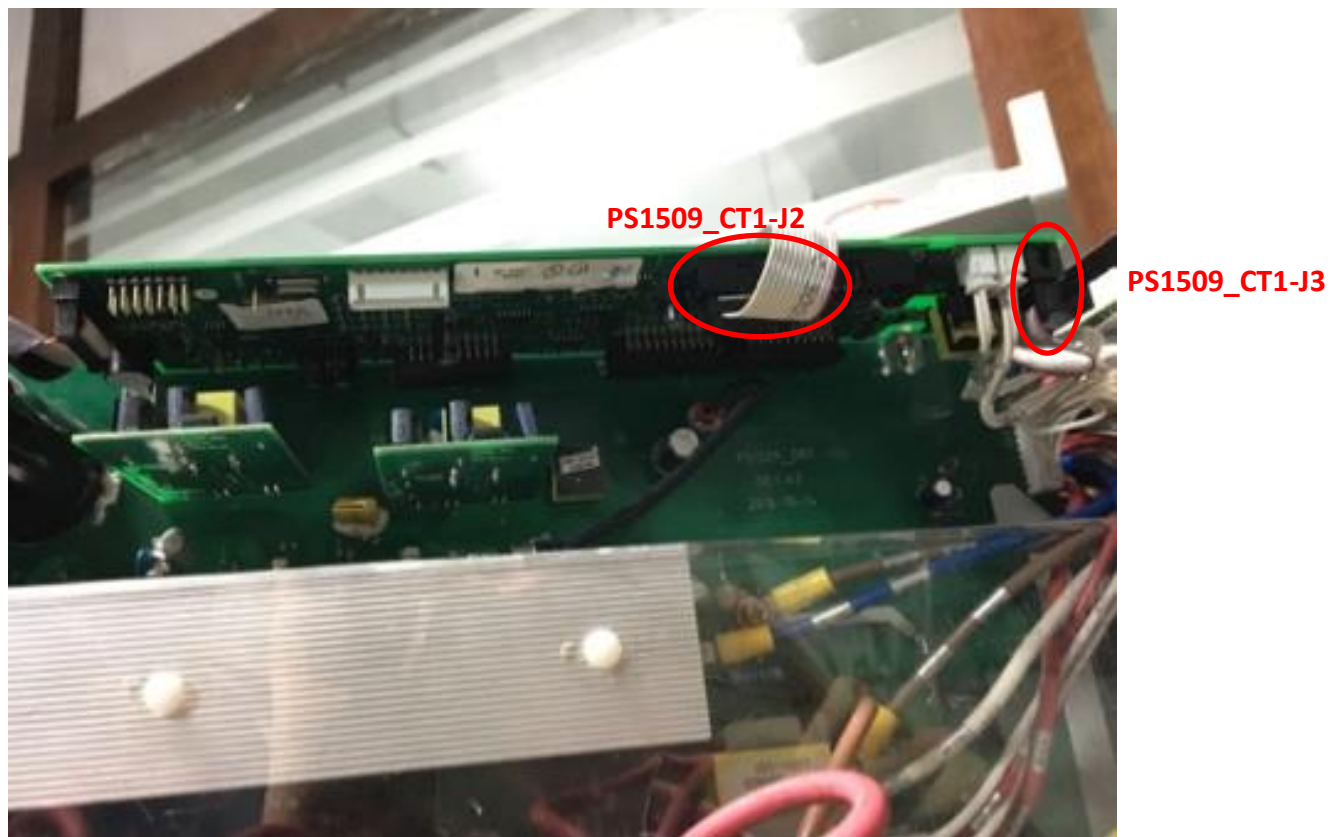

Figure 6 Connect the signal cables
6. Connect the signal cables to control board, 10 pins terminal to PS1509_CT1-J3, 12 pins terminal to PS1509_CT1-J2, and fix these terminals with hot-melt adhesive, as is shown in figure 6.